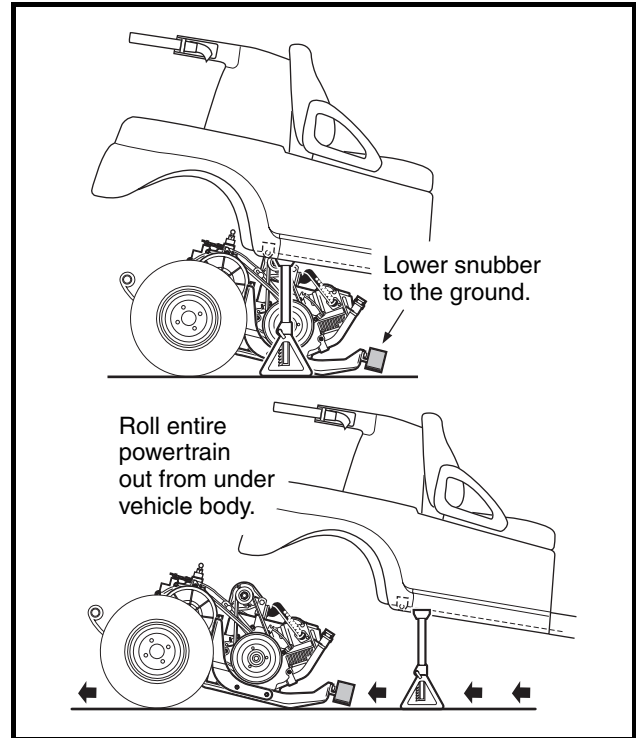

Figure 16-27 Remove Powertrain
14. Grasp the ends of the leaf springs at the rear of the vehicle and roll the powertrain out from under the vehicle (**Figure 16-27, Page 16-13**).